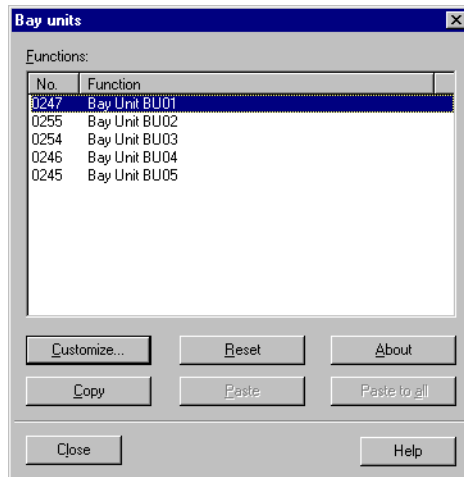

Figure 6-29 Bay units window – Example
- Double-click **Bay units** in the function selection. The Bay units window opens (Figure 6-29, page 275).